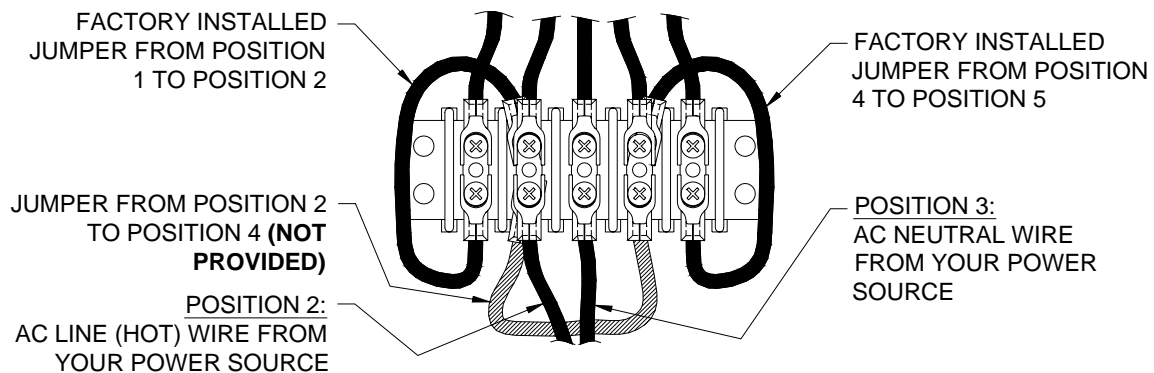

Figure 9 120 VAC Connections
- If you are going to connect the scoreboard to a 120 VAC supply, connect the AC line wire to position 2 and the AC neutral wire to position 3 of **Main Power** terminal block on the junction chassis. Add a jumper from position 2 to position 4. **This jumper is not provided.** Refer to figure 9.